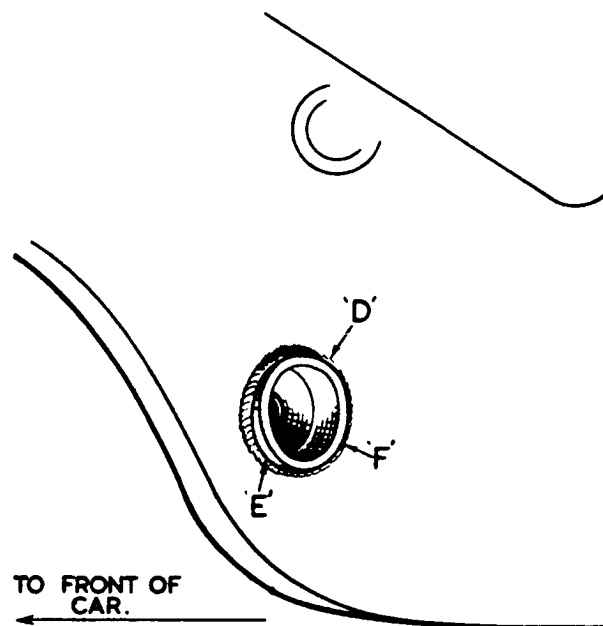

FIG. 4.
- (viii) The next operation is to fit and weld the boss 'F', Fig.4 (also shown in view 'C', Fig.2) in the appropriate position on the rear wing. It will be observed from Fig.4 that the outer face of the boss is nearer to the wing at point 'D', than at point 'E', in order to ensure that the rear end of the fairing fits snugly to the wing. To fit, proceed as follows:-
- c) Trim the hole in the wing until the boss is a good push fit in this hole. Trim the hole in the skin (it is not necessary for the boss to be a good fit in this hole) to allow the boss to be tilted so that when the outer face of the boss is flush with the wing at point 'D' Fig.4, the face of the boss at point 'E' will project from the wing by approximately $3/16$ ". To assist in positioning the boss, point 'D' should be approximately 45° from the vertical line.